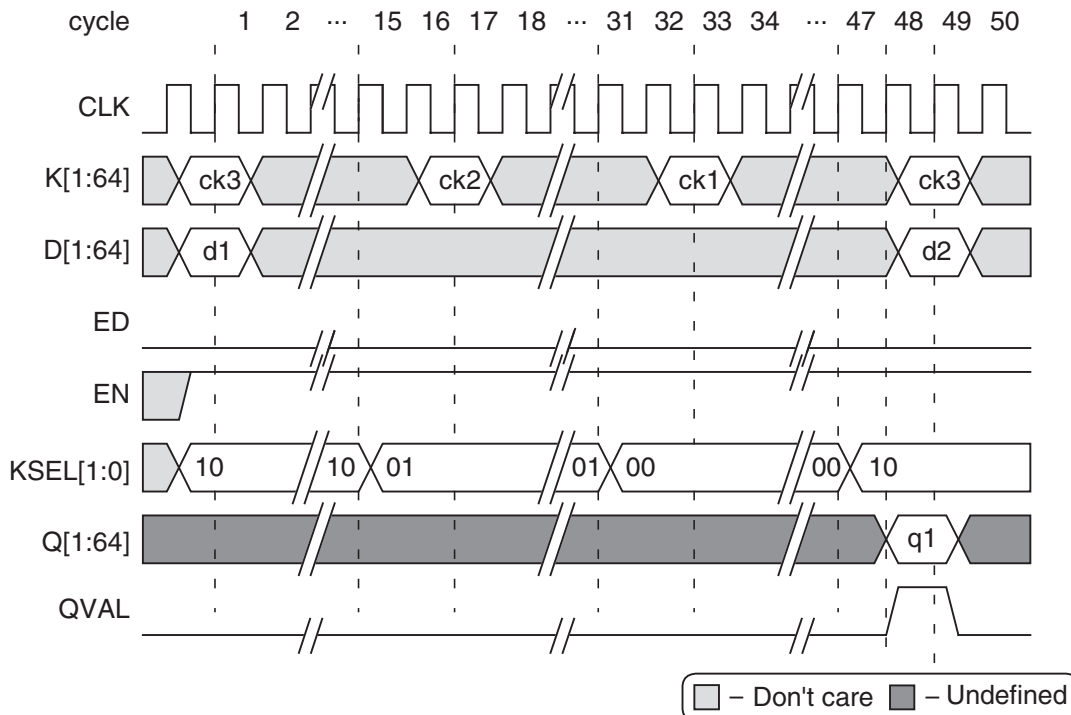

Figure 9 • Example Decryption Sequence
1. K[1:64] is set to the third of three cipher sub-keys ("ck3" in Figure 9) to encrypt the data.
2. D[1:64] is set to the ciphertext data ("d1" in Figure 9) to be decrypted.
After 15 clock cycles of the EN input being held continuously at a logic '1' value, the KSEL[1:0] outputs will change from "10" to "01," indicating that the second of three cipher sub-keys ("ck2" in Figure 9) will need to be presented on the K[1:64] inputs, which must be done by the rising clock edge of the start of clock cycle 17 (one complete clock cycle of slack is built into the Core3DES circuitry). After 31 clock cycles of the EN input being held at a logic '1,' the KSEL[1:0] outputs will change from "01" to "00," indicating that the first of three cipher sub-keys ("ck1" in Figure 9) will need to be presented on the K[1:64] inputs, which must be done by the rising clock edge of the start of clock cycle 33.
After 48 clock cycles of the EN input being held continuously at a logic '1' value, the QVAL signal will transition from logic '0' to logic '1' and remain valid for one clock cycle, indicating that valid plaintext (un-encrypted data, shown as "q1" in Figure 9) is available on the Q[1:64] outputs. Note that the decrypted plaintext data is only available during clock cycle 48, thus the user must register or latch the data on Q[1:64] using the QVAL signal as a qualifying register enable or latch enable.
As shown in Figure 9, continuous decryption is possible. For example, the second 64-bit ciphertext data word ("d2" in Figure 9) can be immediately decrypted by presenting d2 on the D[1:64] inputs by the rising clock edge of clock cycle 49 and by presenting the cipher sub-keys ck3, ck2, and ck1 in the sequence described earlier in this section.